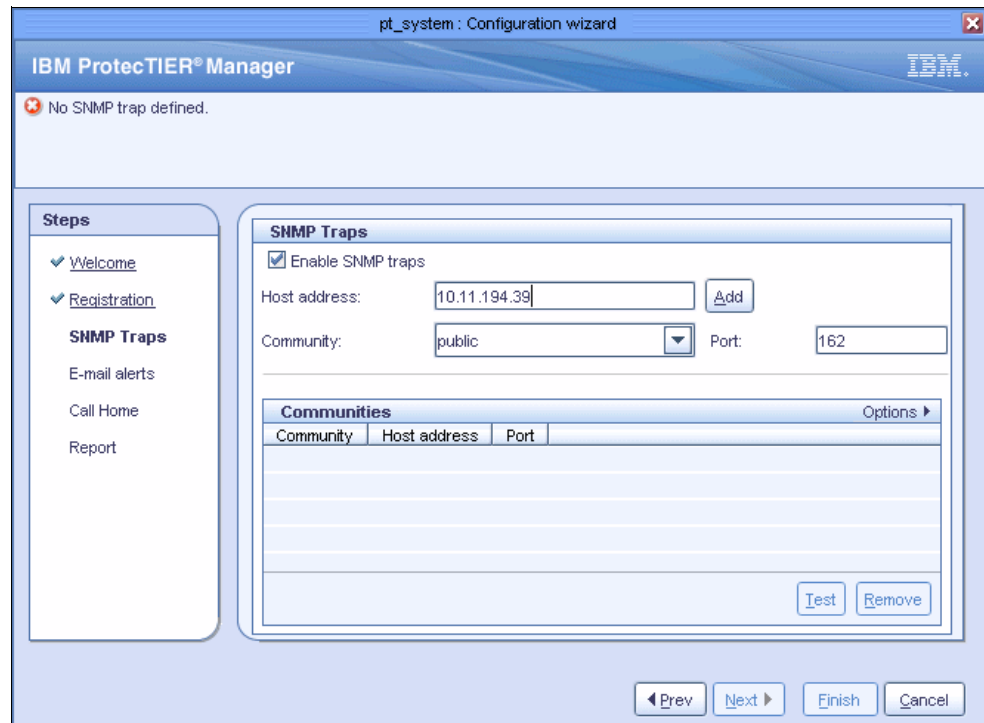

Figure 5-37 Configuration wizard: SNMP Traps window
- i. Select the **Enable SNMP Traps** check box. The SNMP trap input fields become active, as shown in Figure 5-37.